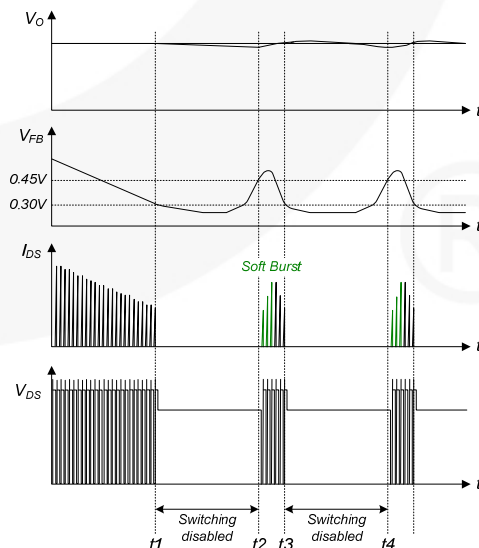

Figure 25. Burst-Mode Operation
5. Soft Burst Mode: To minimize power dissipation in Standby Mode, the FSL117MRIN enters Burst Mode. As the load decreases, the feedback voltage decreases. The device automatically enters Burst Mode when the feedback voltage drops below V_{BURL} (300mV), as shown in Figure 25. At this point, switching stops and the output voltages start to drop at a rate dependent on standby current load. This causes the feedback voltage to rise. Once it passes V_{BURH} (450mV), switching resumes. Feedback voltage then falls and the process repeats. Burst Mode alternately enables and disables switching of the SenseFET, reducing switching loss in Standby Mode.